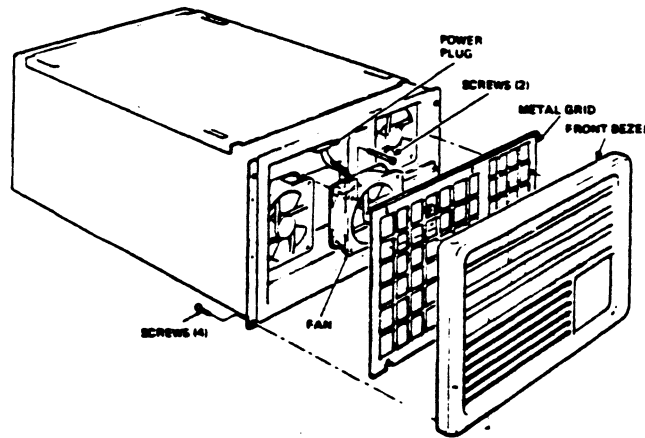

FIGURE 5-20 BOX FAN REMOVAL
5. Loosen the two phillips screws securing the fan to its mounting position on the plenum. See Figure 5-20.